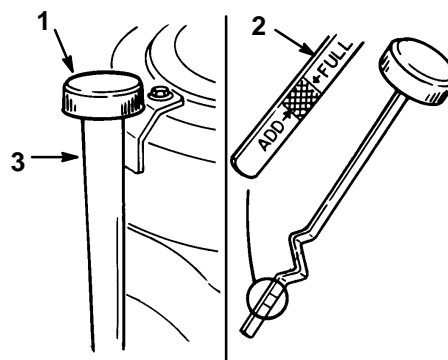

Figure 20
3. Clean around the oil dipstick (Fig. 20) so dirt cannot fall into the filler hole and damage the engine.
4. Unscrew the oil dipstick and wipe the metal end clean (Fig. 20).
5. Slide the oil dipstick fully into the filler tube, do not thread onto tube (Fig. 20). Pull the dipstick out and look at the metal end. If oil level is low, slowly pour only enough oil into the filler tube to raise the level to the “FULL” mark.
7. Slowly pour approximately 80% of the specified amount of oil into the filler tube (Fig. 20). Now check the oil level; refer to Checking Oil Level, page 25. Slowly add additional oil to bring to "FULL" mark on dipstick.